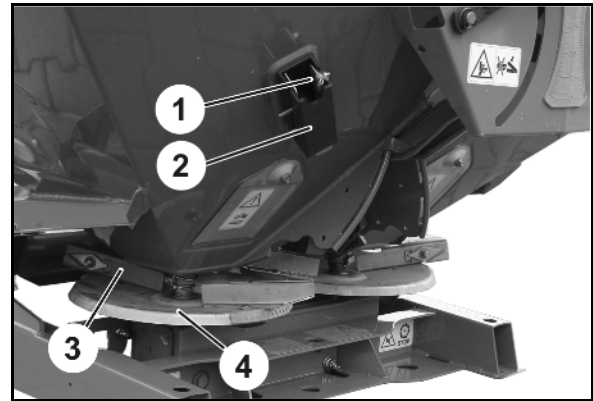

Fig. 82
3. Unscrew the screw connection of the outer section of the vane (Fig. 82/1) using the hexagon socket of the thumb nut (Fig. 82/2).
4. Set the read-off edge (Fig. 82/3) to the letter of the scale (Fig. 82/4) according to the setting chart and retighten the screw connection.